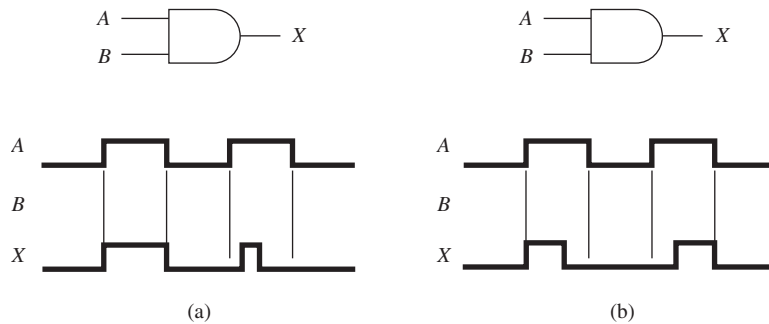

Figure P10
10. The input waveform at A is given for the two-input AND gates shown in Figure P10. Sketch the input waveform at B that will produce the output at X .